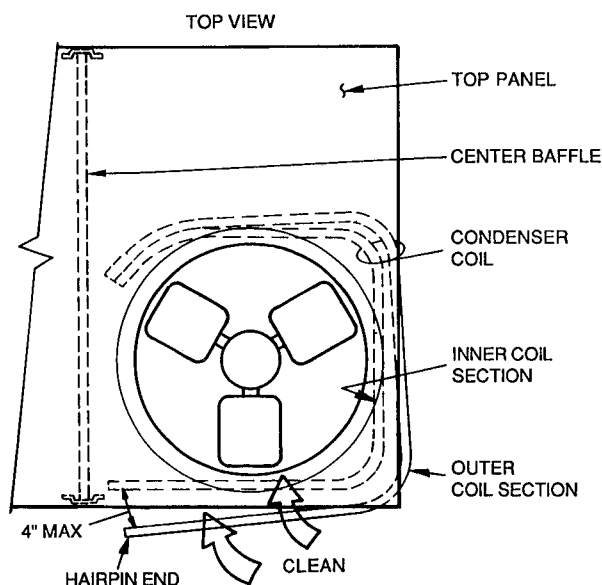

Fig. 32 — Separating Coil Sections
10. Carefully separate the outer coil section 3 to 4 in. from the inner coil section. See Fig. 32.